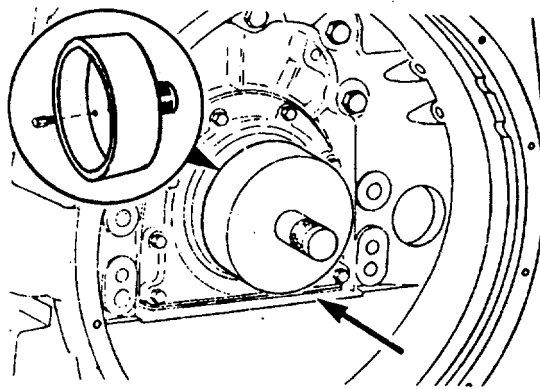

FIGURE 3-93. Using Seal Driver.
- (6) Install the two rear engine mounts. Tighten the capscrews to 158 ft-lb torque.
- (7) Remove the lifting fixture used to support the engine.
- (8) Install a new rear crankshaft seal.
- (f) Remove the pins from the crankshaft oil seal driver, and use the driver to align the rear cover with the crankshaft (FIGURE 3-93) .